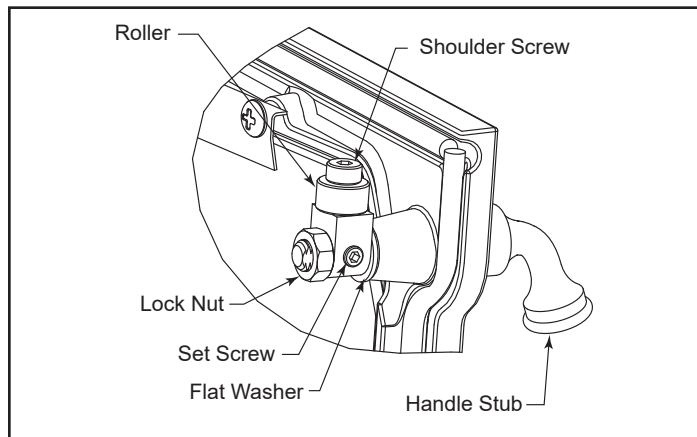

Figure 3.3 - Rotate pawl and/or remove flat washer to adjust latch.
2. Turn the lock nut clockwise with a 9/16" wrench. (Figure 3.3)
3. Once the desired tightness is achieved, tighten the set screw. (Figure 3.3)